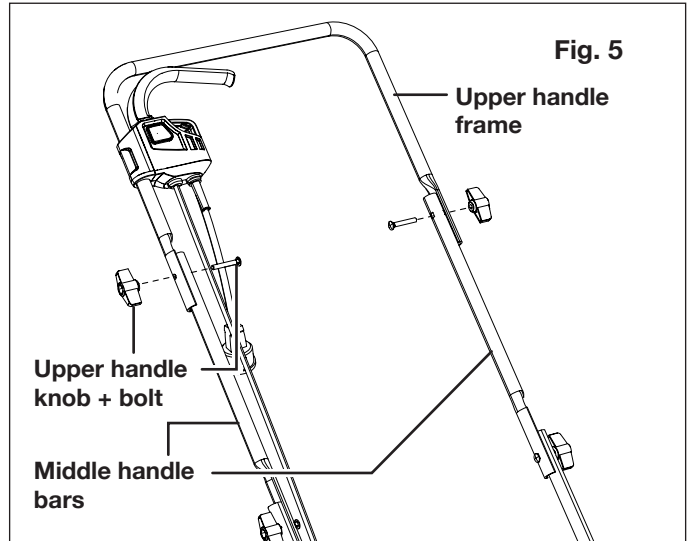

Fig. 5
4. Connect the upper handle frame to the middle handle bars using the second set of knobs and bolts. Tighten the knobs on each side to ensure a secure fit (Fig. 5).